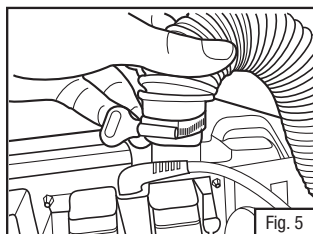

Fig. 5
2. Slide that end of the breathing tube over the Turbo PAPR unit outlet until it seats firmly against the motor blower housing (Fig. 5).